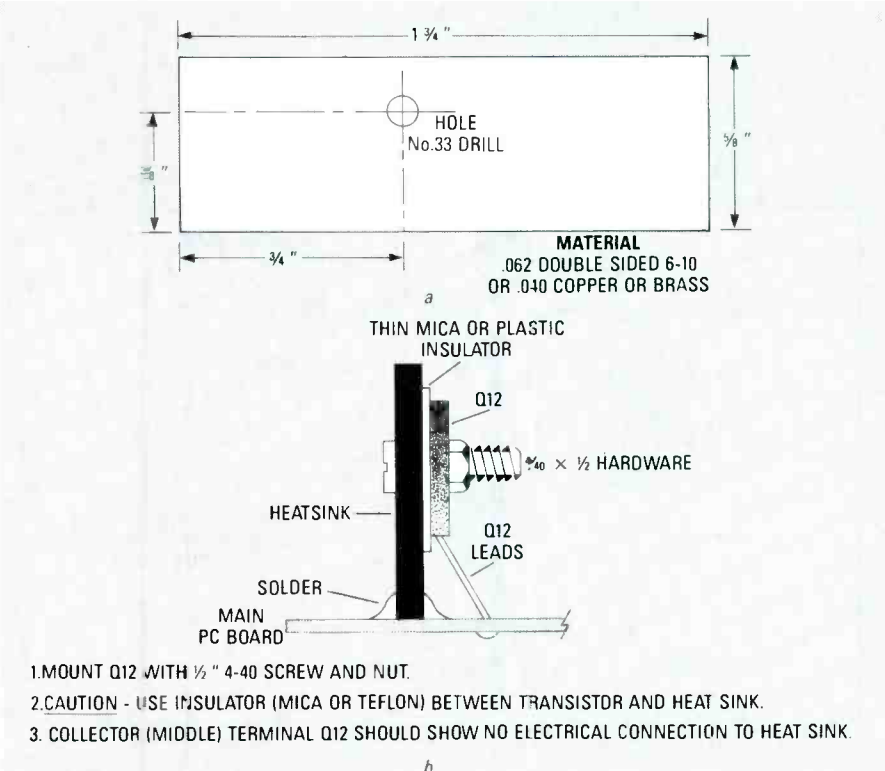

FIG. 2—THE ALUMINUM PLATE THAT IS USED AS A HEAT SINK FOR Q12 also functions as an RF shield for transistors Q6 and Q7.
7. Transistor Q12 must be heat-sinked because it must dissipate up to 3 watts. The method shown in Fig. 2 has proven adequate if at least 1-ounce copper is used. On the other hand, Q7 is adequately heat-sinked if the metal case is soldered to the PC-board ground plane.